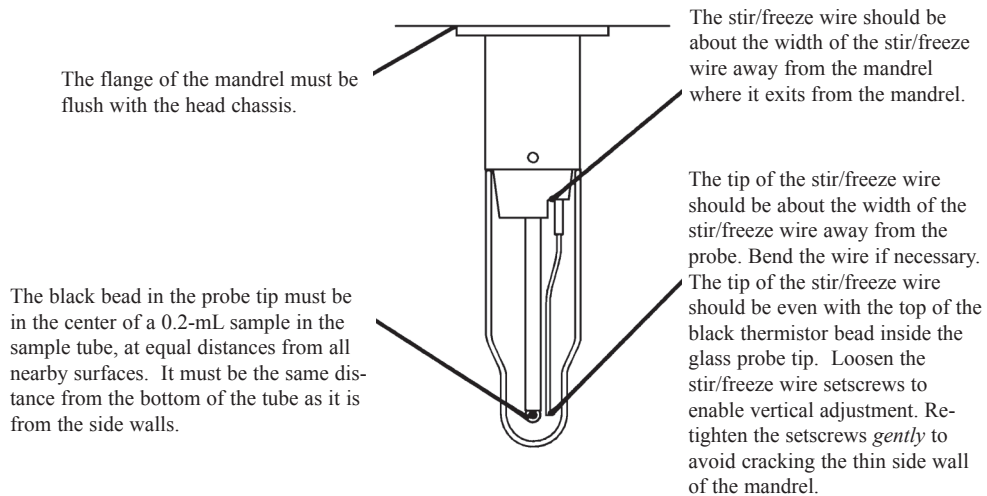

Figure 10: Mandrel, Probe and Stir/Freeze Wire Adjustment
1. Pipette a 0.2-mL sample of H₂O or any of the standards into a sample tube. Then hold the tube up on the mandrel in the position shown in Figure 10. Note in which direction the tip of the probe must be moved (if any) to perfectly center its black sensor bead in the sample volume. Remove the sample tube.
4. Check and adjust the stir/freeze wire position according to the recommendations in Figure 10.